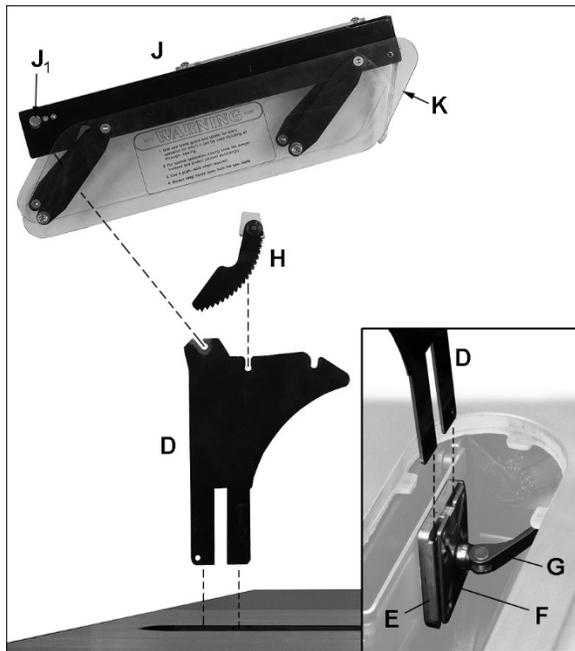

Figure 12
Refer to Figure 12.
3. Pull quick-release lever (G, Figure 12) to open position. The clamp plate (F) is spring loaded and will move away from the bracket (E), leaving a gap.
4. Slide prongs of riving knife (D) into slot between bracket (E, Figure 12) and clamp plate (F), and push riving knife down as far as it will go.
5. Push lever (G) to closed position.
2. Position anti-kickback pawl assembly (H) as shown in Figure 12; the angled side of pawl block faces toward front of saw.
3. Lower pawl assembly onto center notch of riving knife, with pawls straddling knife. Push and hold button on pawl block (on opposite side of that shown in Figure 12), and push pawl block down until it securely engages in notch.
The bracket and clamp plate (E/F, Figure 12) are adjusted at the factory and no further adjustment of the blade guard and riving knife assembly should be necessary. However, **proper alignment is very important**. Before operating table saw, read *section 9.6, Riving knife alignment*, to verify and follow adjustment procedure if necessary.